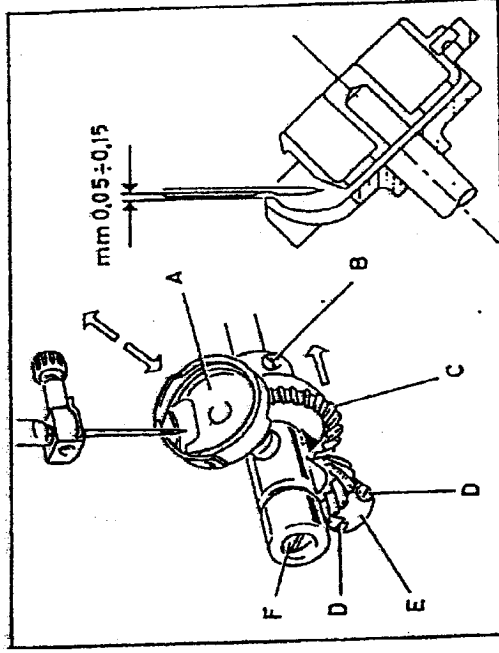

Fig. 7
13. NEEDLE - HOOK DISTANCE (fig.7)
- loosen screw F and move hook A axially until meeting the conditions shown in fig.7;